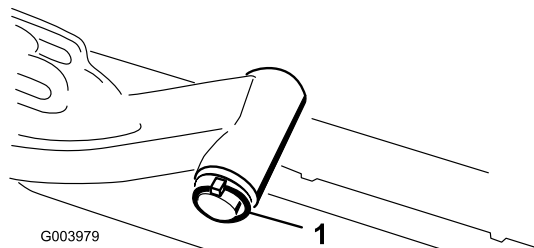

**Figure 17**
12. To lock (fix) the steering on the cutting units, secure the pivot yoke to the carrier frame with the snapper pin (Figure 17).